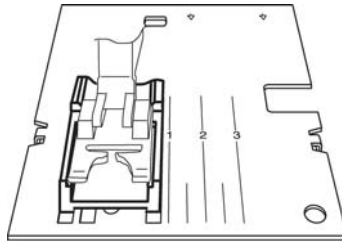

Fig. 7
- Insert presser foot gauge (63-114690-39) at the same time from behind under the zigzag foot and into the cutouts of the needle plate (fig. 7).